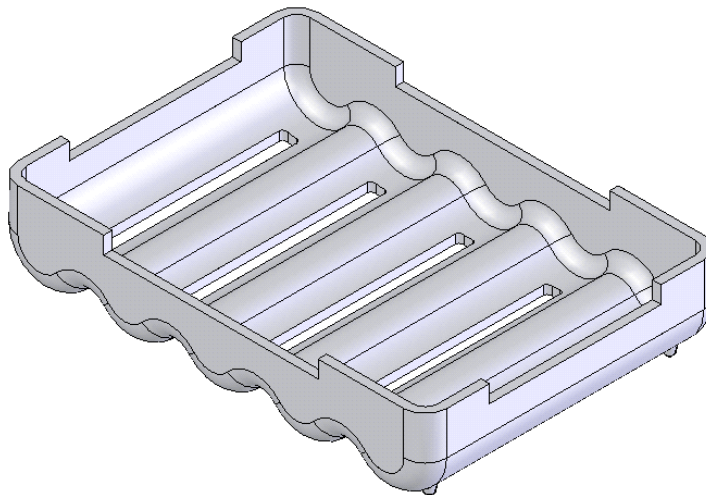
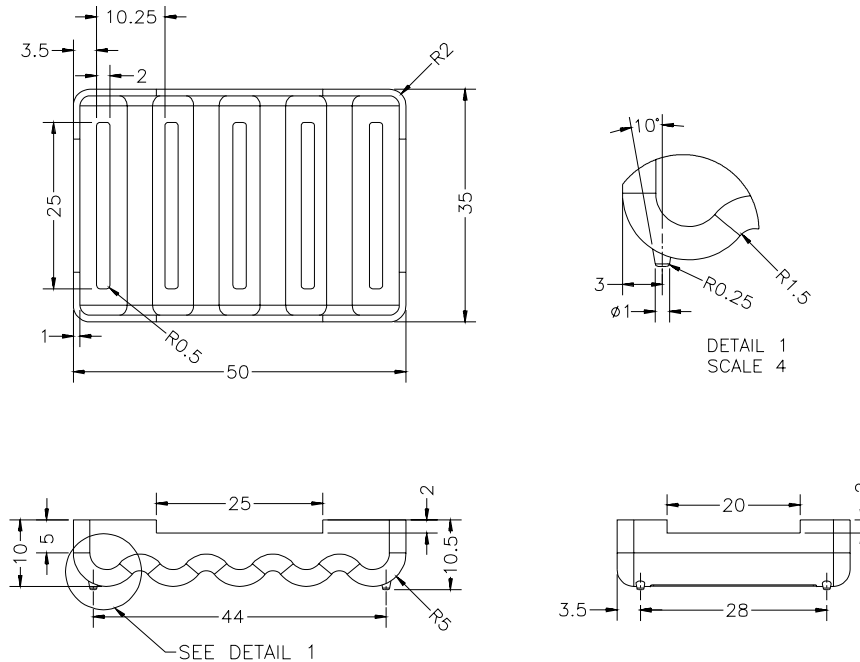

Figure 8-37 Model for Tutorial 1
Figure 8-38 Views and dimensions of the model for Tutorial 1
In this tutorial you will create the model shown in Figure 8-37. After creating some of the features of the model you will dynamically modify the model and then undo the modification. The dimensions of the model are shown in Figure 8-38. **(Expected time: 30 min)**
2. Select the newly created sketching plane and create the sketch of the standoff and apply the required relations and dimensions. The sketch consists of a circle of diameter 1mm. For more dimensions refer to Figure 8-38.